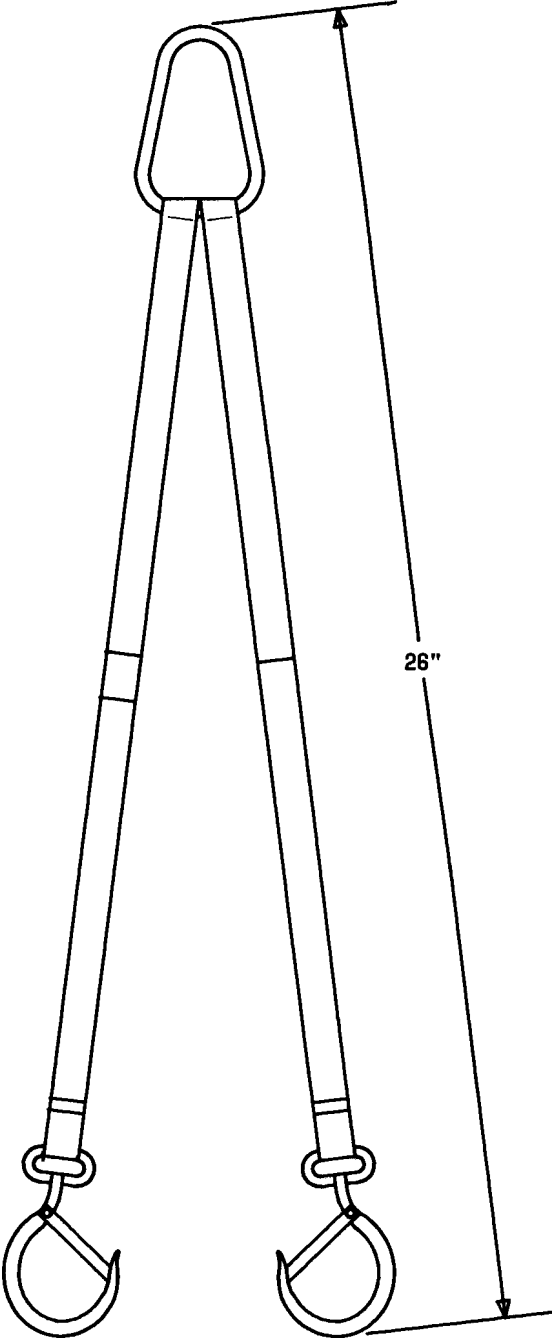

Fig. 3—LIFTEX Lift-It 5PL91-3315 Sling
**2.04 ♦LIFTEX Lift-It 5PL91-3315:** The LIFTEX Lift-It 5PL91-3315 sling (Fig. 3) is constructed of two nylon webbed straps equipped with safety load hooks. The sling is 26 inches in length and rated at 1/4-ton capacity.♦